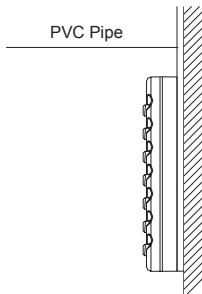
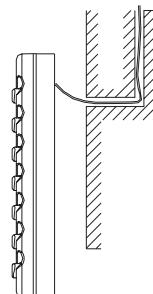

Fig.11.23 Surface Mounting of Cable
Fig.11.24 Concealed mounting of Cable
① . Do not wrap the protective tape too tight, otherwise the efficiency of thermal insulation may be decreased. Ensure that the condensate drainage flexible tube is separate from the bundled pipes.
② . After the protective work is completed and the pipes are wrapped, use seal material to block the hole in the wall, so as to prevent rain and wind from entering the room.
- ◆ If the communication line between the wire controller ($85 \times 85 \times 16$) and the indoor unit is surface-mounted, use 1# PVC pipe and make matching recess in the wall (refer to Fig.11.23); If concealed installation is adopted, 1# PVC pipe can be used (Refer to Fig.11.24).